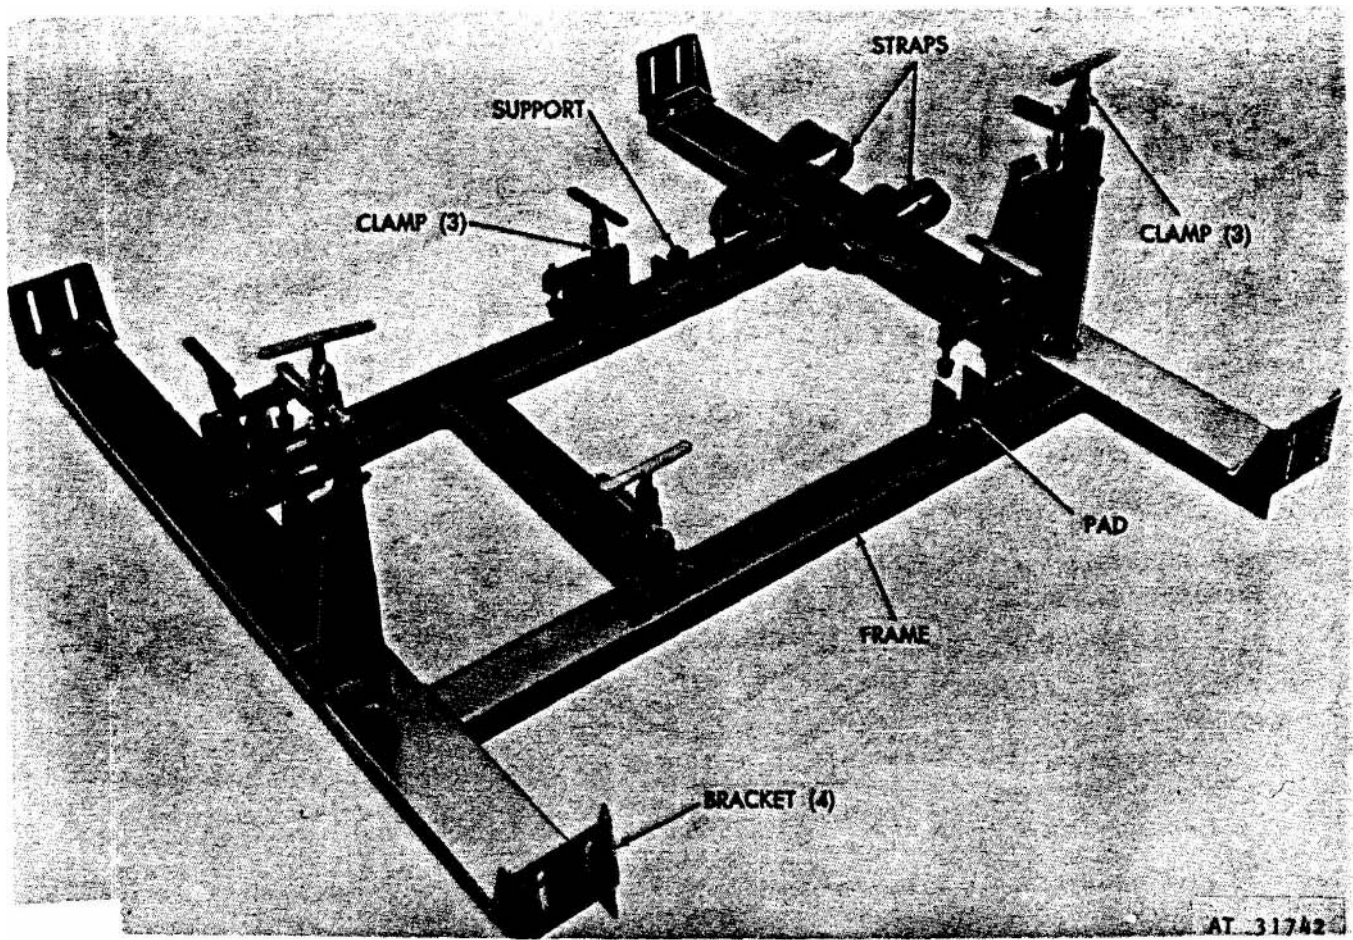

Figure 3-20. Frame assembly, mortar kit, 81 mm.
a. *Frame Assembly.* The frame assembly (fig 3-20) is secured to the floor of the carrier of the M561 Cargo Truck by means of brackets secured through